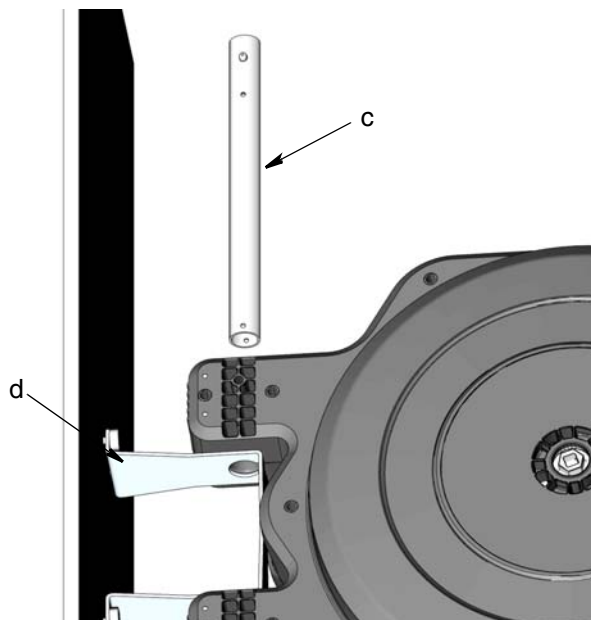

FIG. 24
7. Align hose reel with mounting bracket (d). Slide mounting tube (c) through hose reel enclosure and mounting bracket. (FIG. 24).